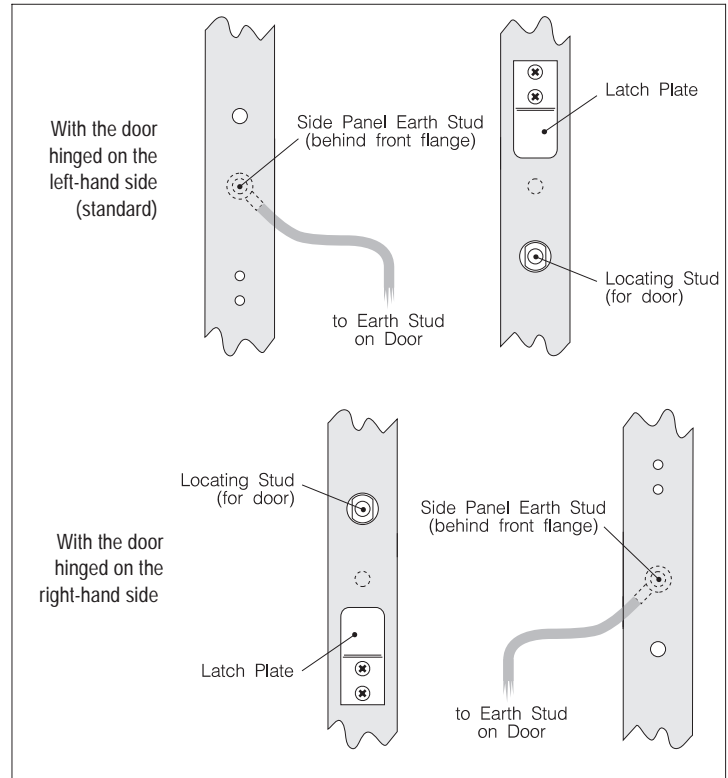

Fig.1-5: Latch plate, locating stud and earth wire.
7. Transfer the latch plate and locating stud to the opposite side of the cabinet, noting that the latch plate is inverted (see Fig.1-5).